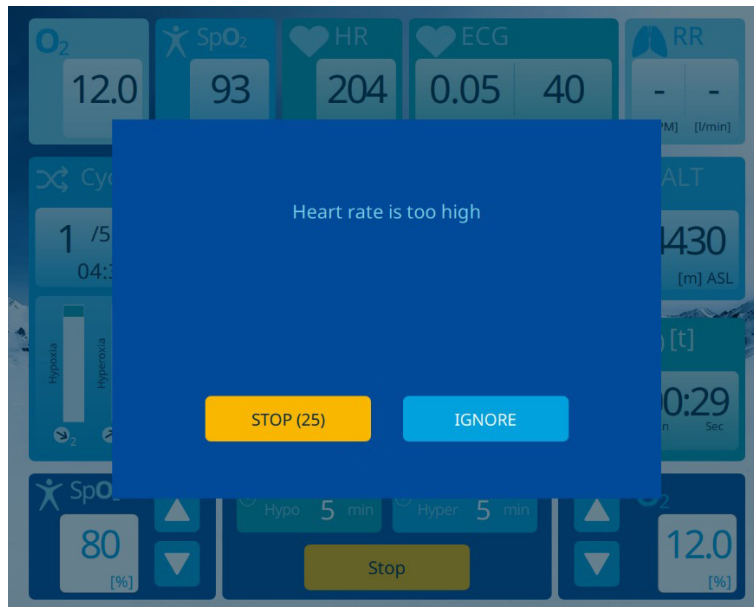

Figure 28 – “Heart rate is too high” message
- “Heart rate is too high” (Figure 28),